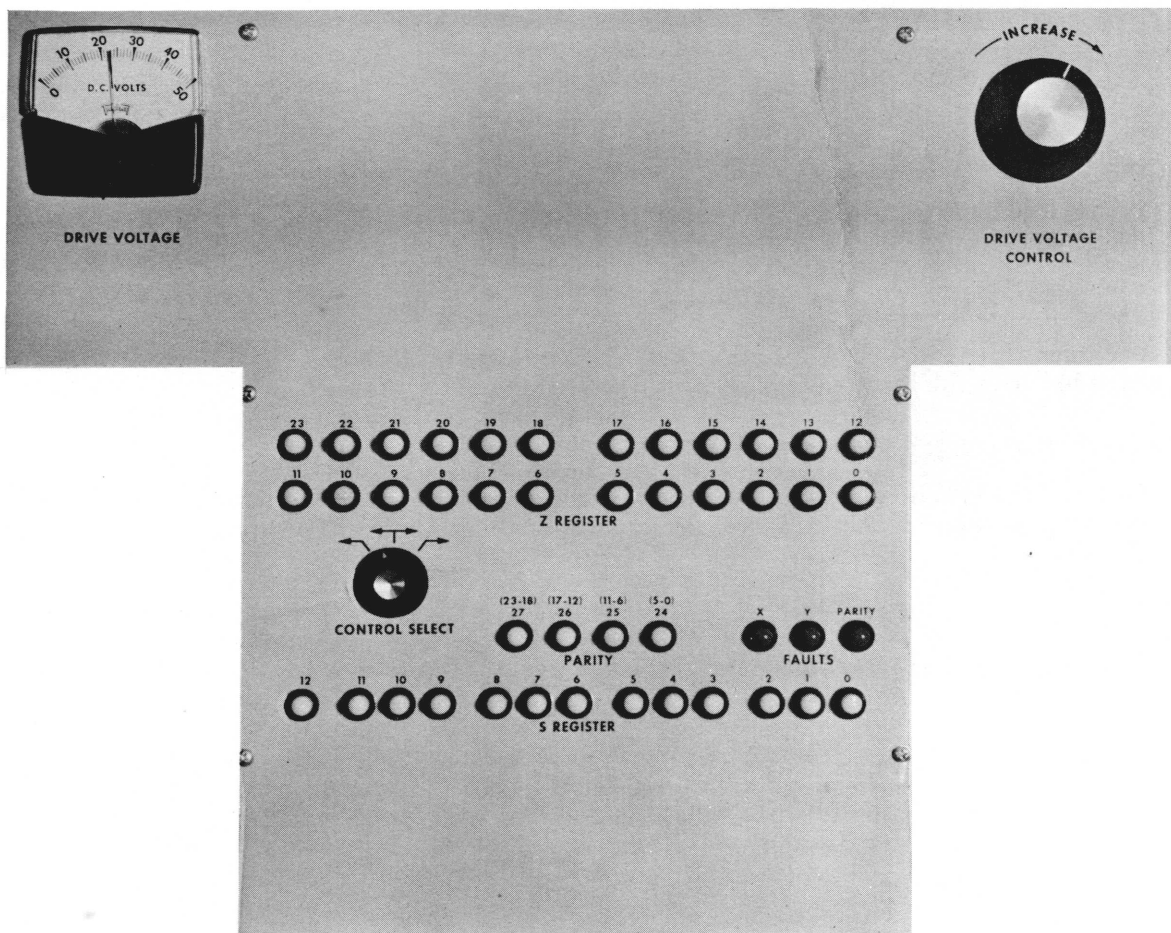

Figure 2-1. Storage Module Control Panel
Figure 2-1 shows the Storage Control Panel which is mounted at the top of each 3209 Storage Module. The Drive Voltage Control is used to adjust the drive voltage to 22.5 volts, and not exceeding 24 volts. The Z and S registers are displayed on this panel, as well as three storage faults. The indicator lamps represent an x or y drive line voltage failure and a storage parity fault. The Control Panel on the 3203 Module is similar to the 3209 Control Panel but is laid out on a vertical plane.
The Z register is only cleared at the beginning of each memory cycle (except in the case of a Master Clear). If the program stops as the result of a parity error, the operator can examine (Z) on the Storage Module Control Panel, Figure 2-1.